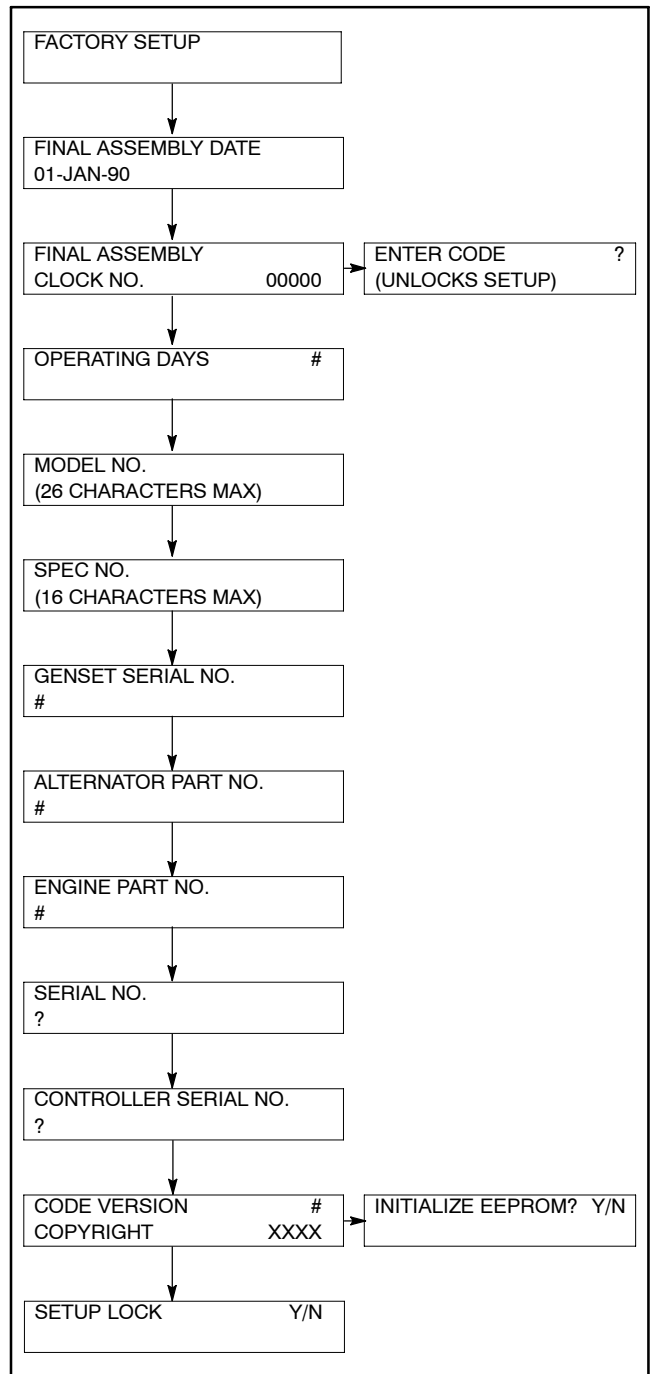
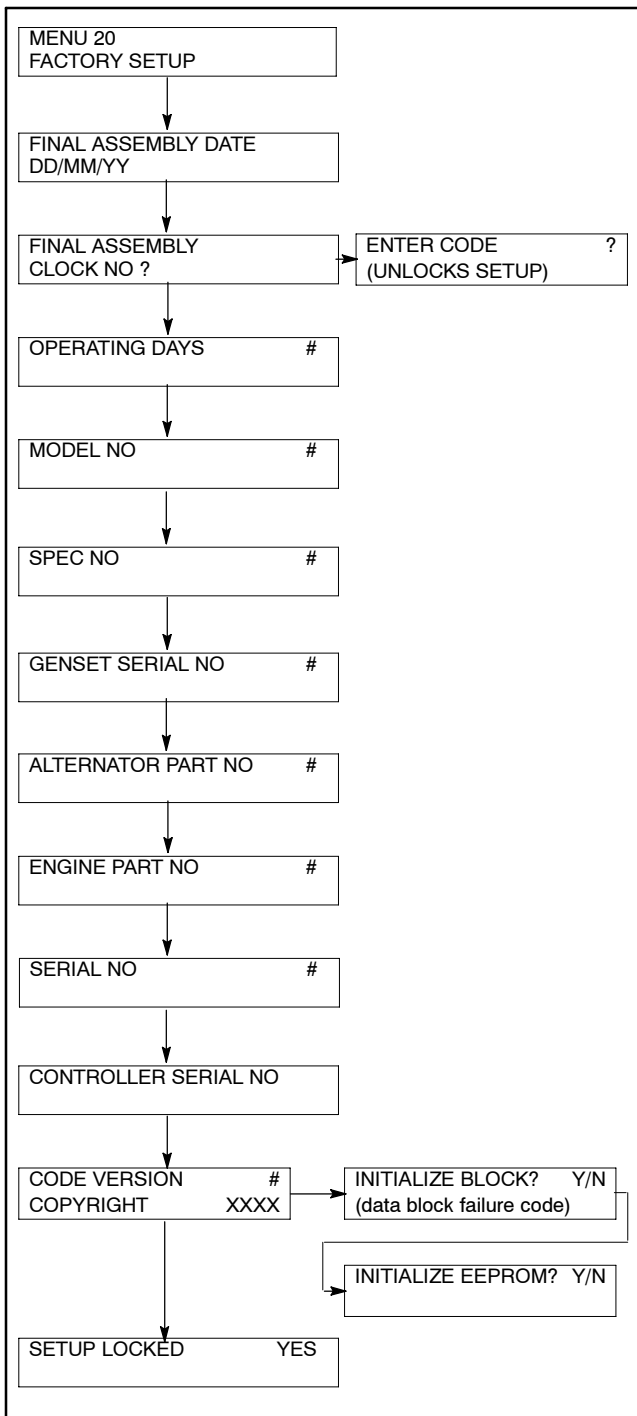

Figure 5-6 Menu 20, Factory Setup (prior to version 2.10)
Figure 5-7 Menu 20, Factory Setup
- d. Use the controller keypad to go to Menu 20, Factory Setup. See Figure 5-6 or Figure 5-7 for displays.
i. Go to Menu 20, Factory Setup. See Figure 5-6 or Figure 5-7 for displays.